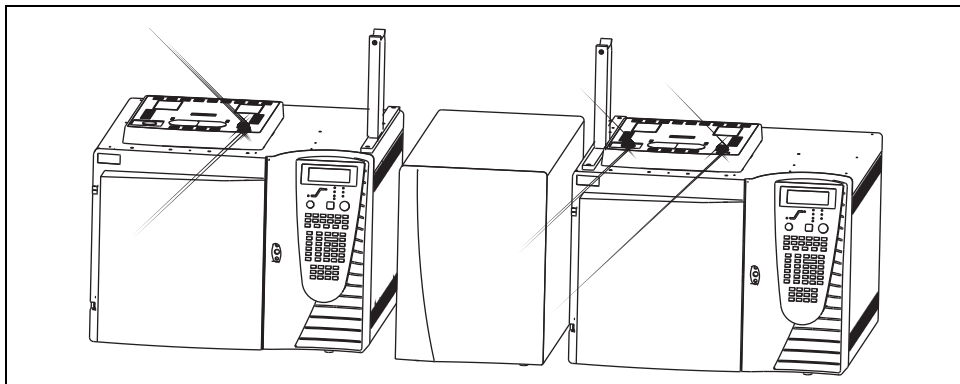

Figure 3-17. Two TRACE GCs Ultra and MS Placing
5. Place the two GC units beside the MS detector as shown in Figure 3-17.